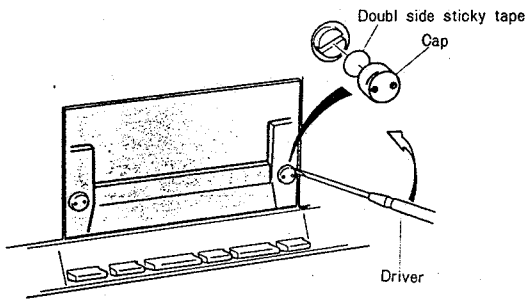

Fig. 2
1) Remove the cap using a small screwdriver, etc. because it is fastened to the screw of the cassette lid using both-side tape. (See figure 2)